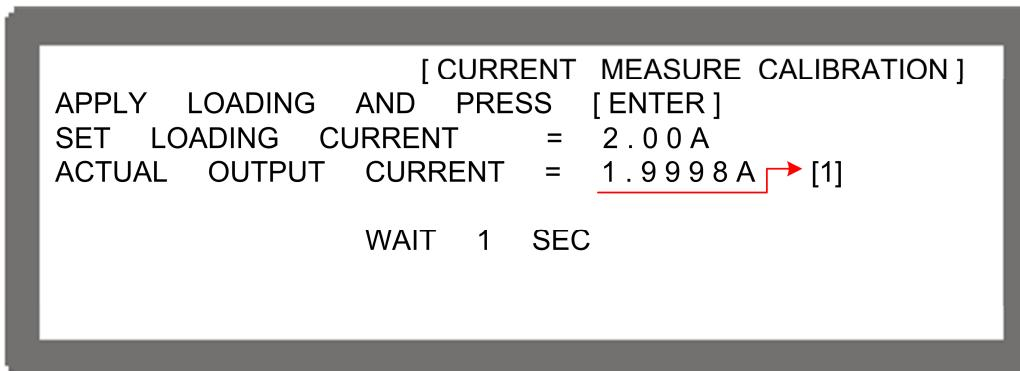

Figure 3-105
5. Figure 3-105 will display. Press “**ENTER**” to confirm the shunt is attached. The low current range will be calibrated first. The system outputs 5V volts and then sets the loading current to 2.00A. The cursor will stop at position [1] as shown in Figure 3-105. Enter the current (enter 4 digits after the decimal point) read by the Current Shunt (DVM) and press “**ENTER**” to confirm and wait for the test to end.